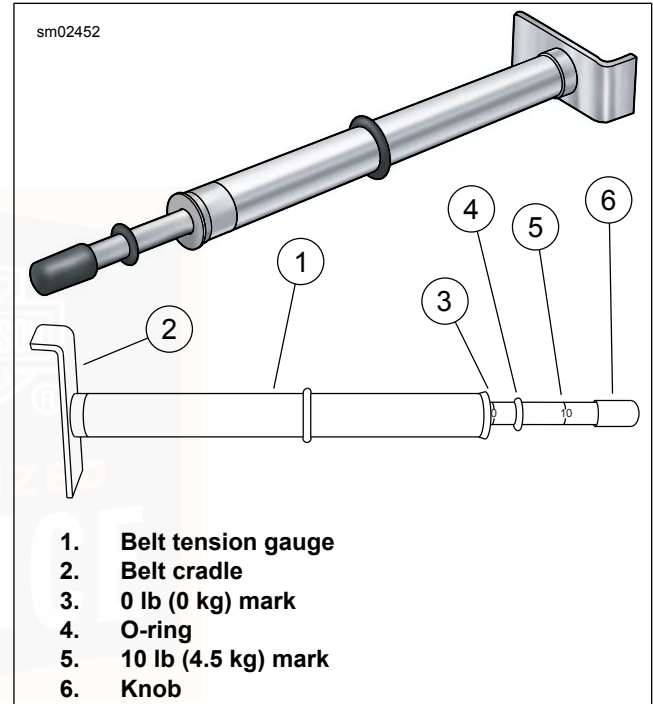
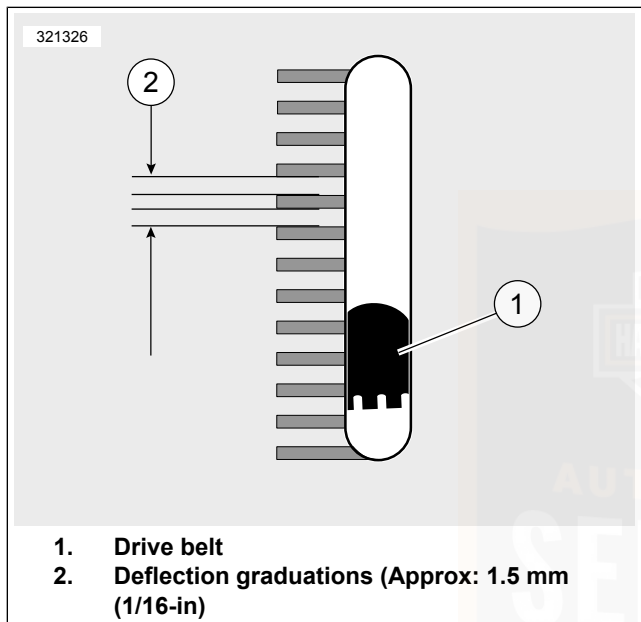

Figure 67. Belt Tension Gauge
Figure 68. Belt Deflection Window
3. See Figure 67. Measure belt deflection using BELT TENSION GAUGE (PART NUMBER: HD-35381-A):
- a. Slide O-ring (4) to zero mark (3).
- b. **Models equipped with belt deflection window:** Fit belt cradle (2) against bottom of drive belt in line with belt deflection window.
- c. **All other models:** Fit belt cradle (2) against bottom of drive belt halfway between drive pulleys.
- d. Press upward on knob (6) until O-ring slides down to 10 lb (4.54 kg) mark (5) and hold steady.
- a. **Models equipped with belt deflection window:** See Figure 68. Measure belt deflection as viewed through belt deflection viewing window while holding gauge steady. Each deflection graduation is approximately 1/16 in (1.6 mm).